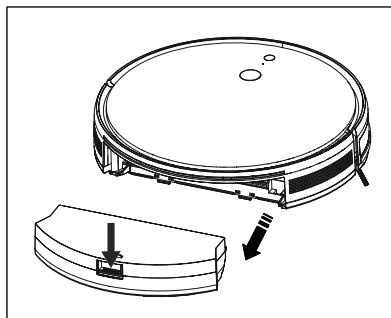

Fig. 7
① ATTENTION!
- Do not rinse the EPA filter ⑦ with water. The EPA filter ⑦ can be damaged as a result.
- Press the release button ⑮ on the dust container ⑯, and pull it out of the appliance (see Fig. 7).